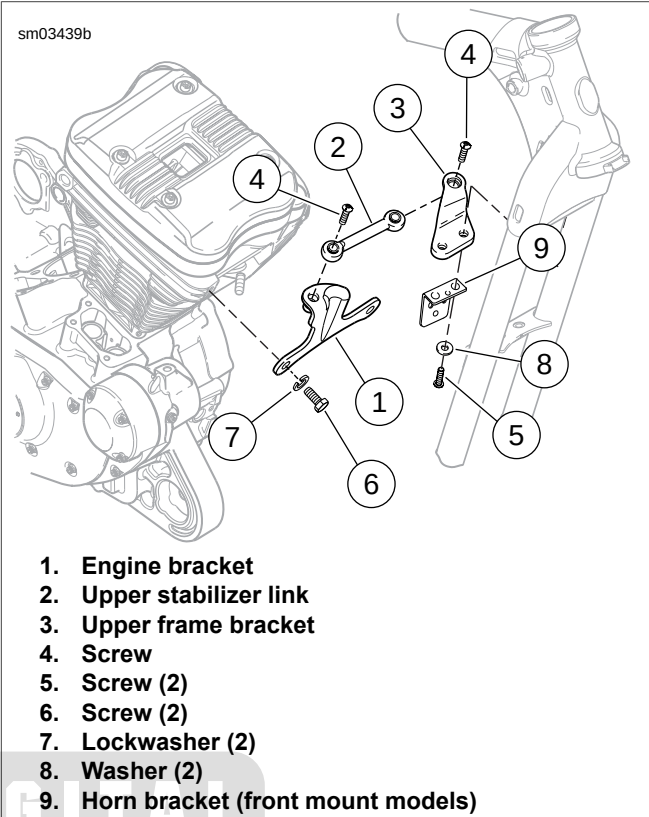

Figure 2-167. Upper Front Stabilizer Link Assembly
1. See Figure 2-167. Remove screws (4) and stabilizer link (2).
*Models with a side-mounted horn do not include a horn bracket (9).*
2. Remove screws (5), washers (8), horn bracket (9) and upper frame bracket (3) from frame.
3. Remove screws (6), lockwashers (7) and engine bracket (1) from front cylinder head.
1. See Figure 2-167. Install screws (6), lockwashers (7) and engine bracket (1) to front cylinder head. Tighten to 55-65 ft-lbs (74.6-88.2 Nm).
2. Install upper frame bracket (3), horn bracket (9), screws (5) and washers (8). Tighten to 25-35 ft-lbs (33.9-47.5 Nm).
3. Install stabilizer link (2) with screws (4). Tighten to 25-35 ft-lbs (33.9-47.5 Nm).
7. See Figure 2-167. Remove screw (4) securing upper front stabilizer link (2) to stabilizer link bracket (3).
6. See Figure 2-167. Attach upper front stabilizer link (2) to bracket (3) with screw (4). Tighten to 25-35 ft-lbs (33.9-47.5 Nm).